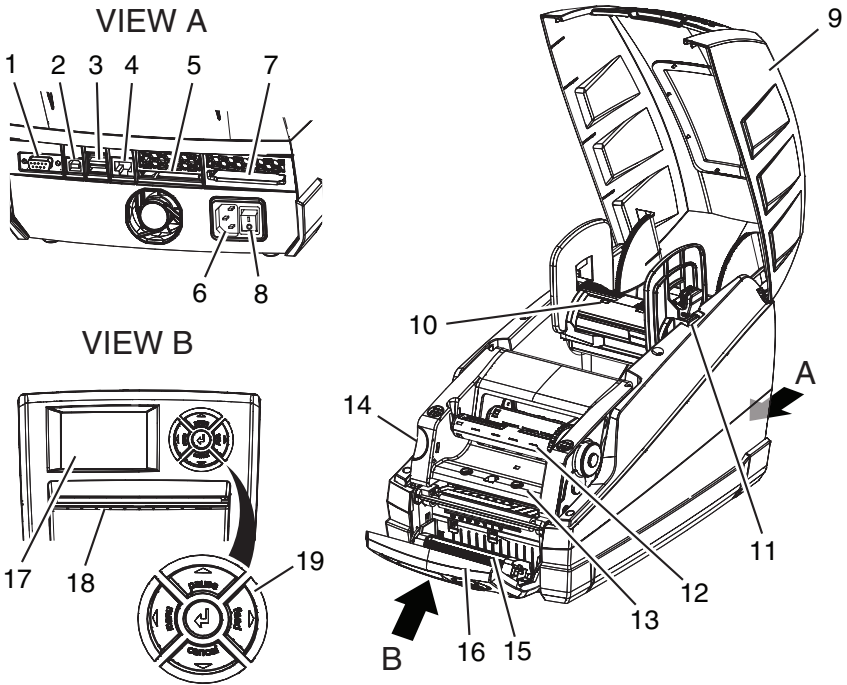

Figure 1, Overview
- Open the label printer cover (**Figure 1, 9**).
The standard available interfaces and connectors are shown in **Figure 1, View A**.
Switch the printer power switch (**Figure 1, 8**) to the off position (O) before connecting the printer to the power supply.
1. Plug the power cable into the power connection socket on the back of the printer (**Figure 1, 6**).
The printer has a RS-232 port (**Figure 1, 1**), a USB port (**Figure 1, 2**) and an Ethernet port (**Figure 1, 4**).
2. Connect the printer to the computer using the supplied USB cable. The USB cable connects to the printer at the USB port (**Figure 1, 2**) and to a USB port on the computer.
2. Connect the printer to the computer using an RS-232 cable (not provided). The RS-232 cable connects to the printer at the port **(Figure 1, 1)** and to the computer.
- Turn on the power switch on the back of the printer **(Figure 1, 8)**. The printer performs a system test, and then shows the system status “**Ready**” in the display **(Figure 1, 17)**.
- Switch the printer off at the power switch **(Figure 1, 8)** after finishing work.
1. Open the cover (**Figure 1, 9**) and press the green release button (**Figure 1, 14**) to open the control panel (**Figure 1, 16**).
2. Raise the print module (**Figure 1, 9**).
4. Lower the print module. Press firmly on the indentions (**Figure 1, 8**) on both sides on the module until the print module clicks firmly into position.
5. Lift the control panel (**Figure 1, 16**) and press firmly until the panel clicks into position.
6. Close the cover (**Figure 1, 9**).